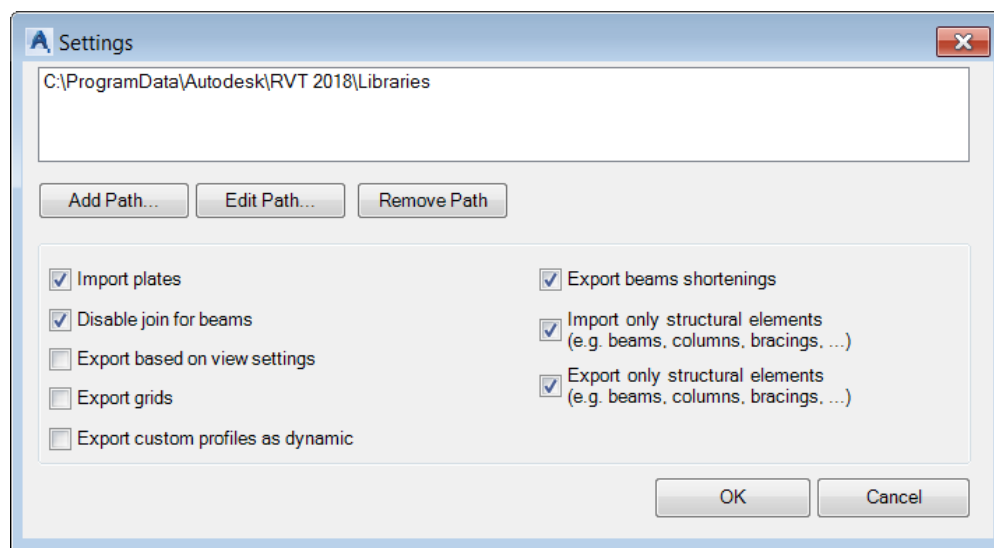

FIGURE 6: THE **SETTINGS** DIALOG BOX
1. From the **Add-Ins** tab > **Advance Steel Extension** flyout, click **Settings**; the **Settings** dialog box is displayed, as shown in Figure 6.